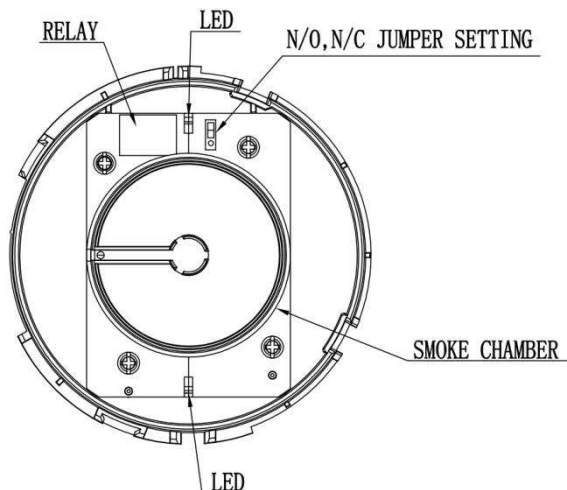

Fig. 3: Adjusting the output relay
2. Remove the jumper header located adjacent to the relay, and reinsert it in the NC position (see Fig. 3).